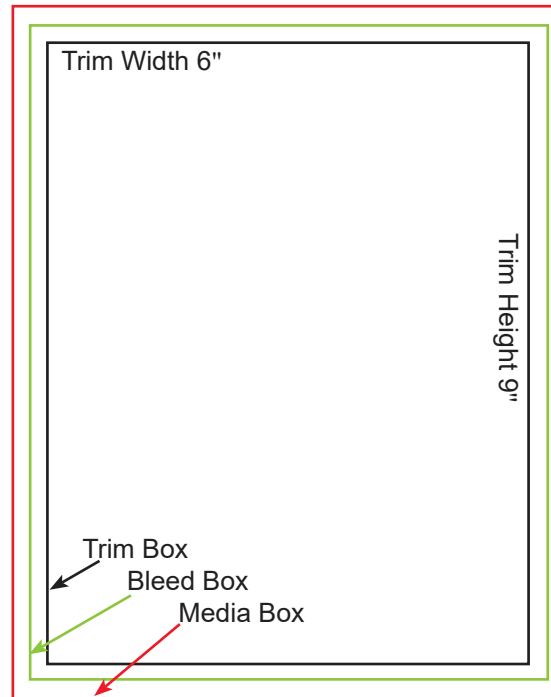

Figure 1
- PDF Trim Box must be set to the exact width and height of finished trimmed book. (See Figure 1)
- Any bleed elements must extend 1/8" past the trim box, except on bind edge should only butt to trim edge. (See Figure 1)
- Media box must be a consistent size and larger than the trim box only if bleed elements exist. (See Figure 1)